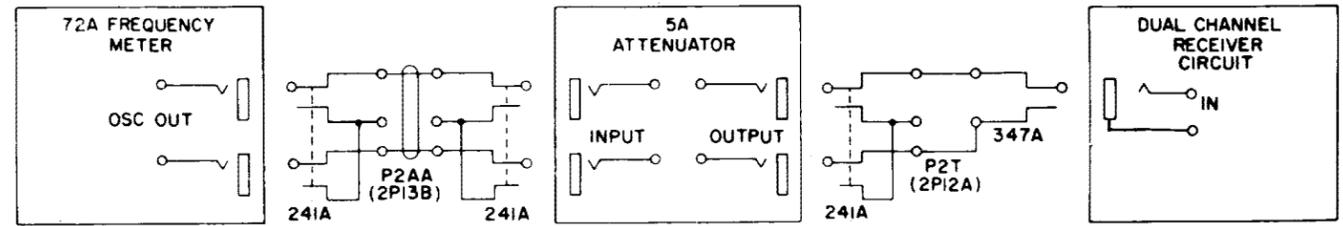

FIG. 3
18	Connect frequency meter, attenuator, circuit under test as shown in Fig. 3.
- 18 Connect frequency meter, attenuator, circuit under test as shown in Fig. 3.